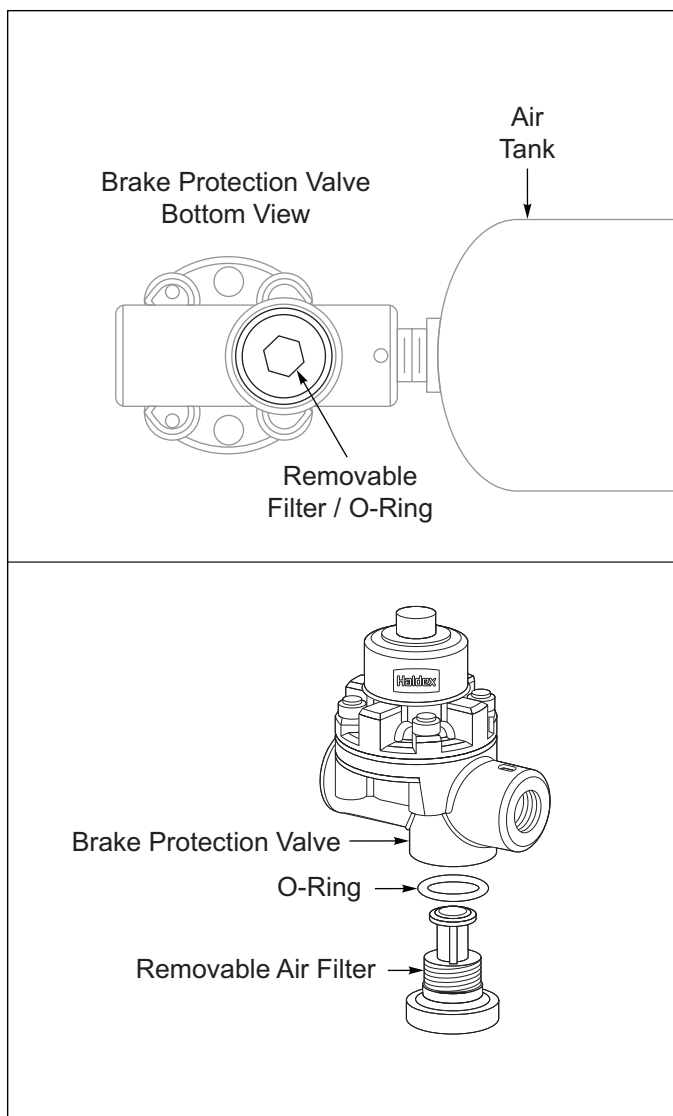

Figure 4-2: Brake Protection Valve Filter
3. Check the brake protection valve filters every 3 months or when the air flow becomes restricted, See **Figure 4-2**.